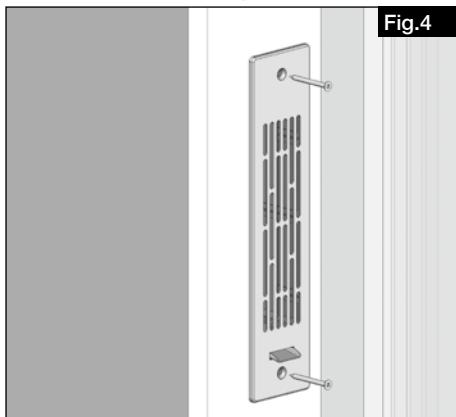

Fig.4
3. Screw the soffit grille to the plaster frame with the provided screws (see Fig. 4).